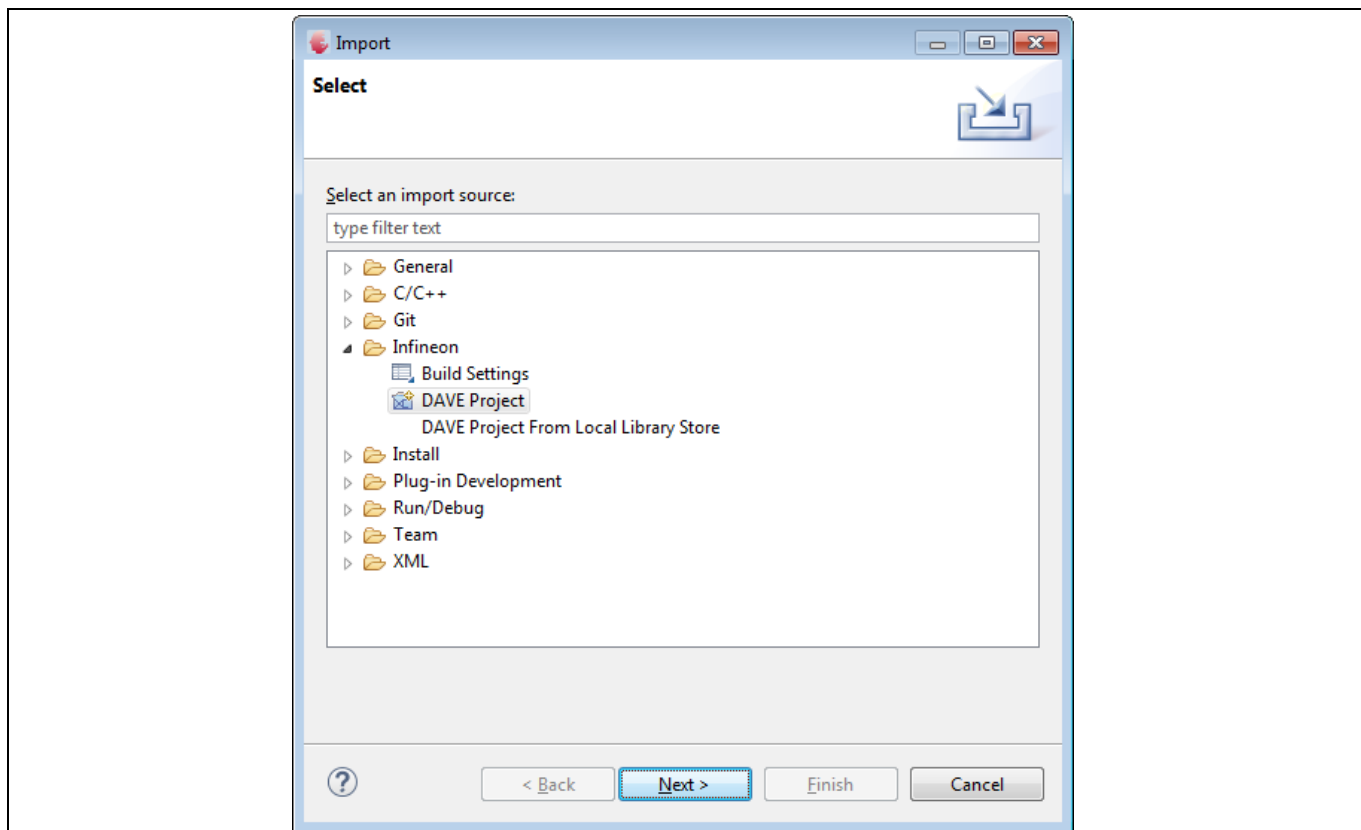

Figure 4 Import project
Step 1: Open DAVE™, go to “File” – “Import”. Then select “Infineon” – “DAVE project” and click “Next”. See Figure 4 for details.